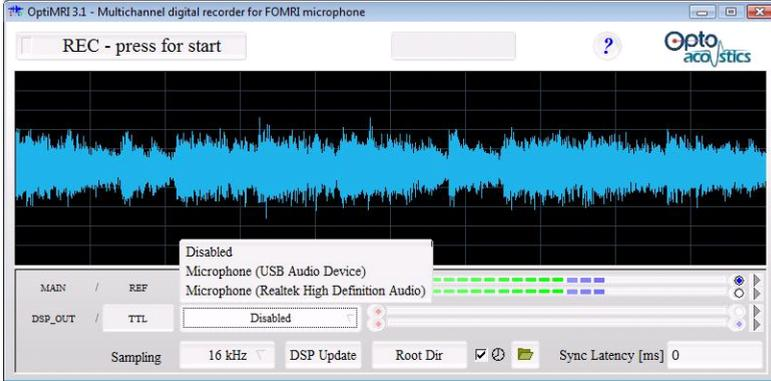

Figure 5-1. Choose a Sound Card for the Microphones
2. Choose one of the microphone devices from the popup list (see Figure 5-1).